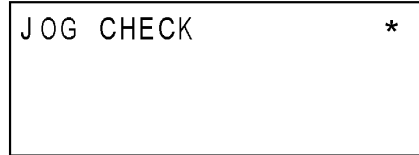
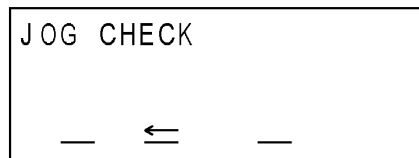

Fig. 29
Fig. 30
Note 2: For the product including the jog dial specification, this mode shifts to the Jog Check Mode as shown in Fig. 29 after the completion of full key check skipping the OK display and OK print processes. (Depress of the "Z" key allows shifting to the Jog Check Mode).
- (5) Press the "RET" key while the LCD displays as shown in Fig.29. The display shifts to one as shown in Fig.30.